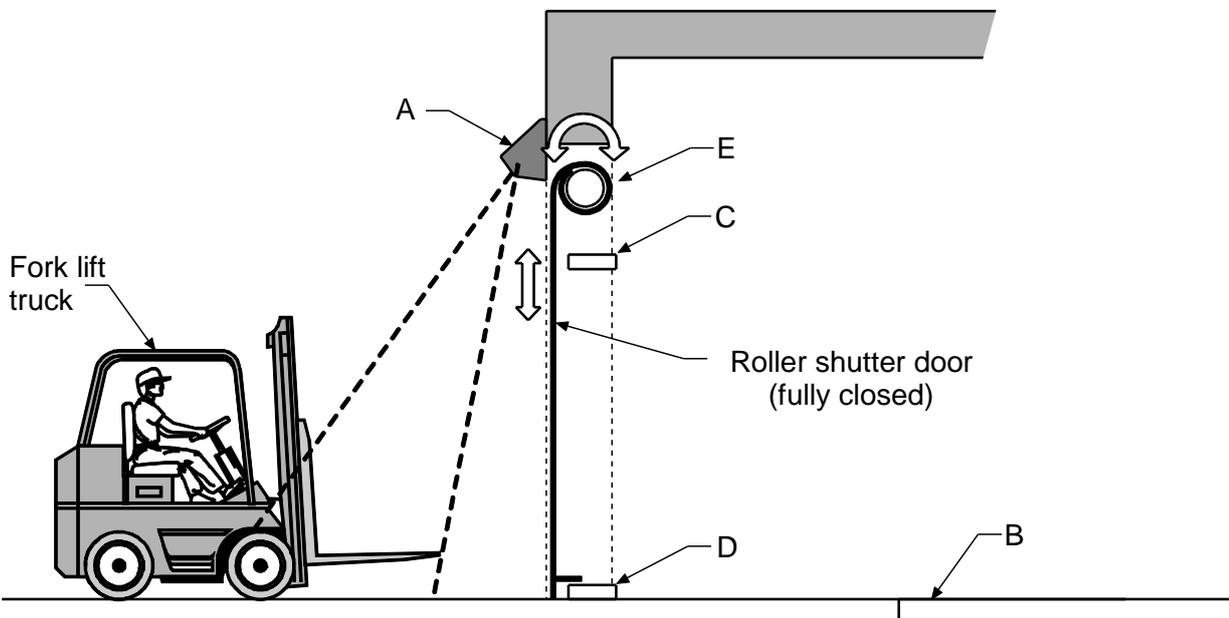

Figure Q11
11. A sports stadium goods entrance uses a roller shutter door as shown in Figure Q11. Exit by this door is **not** allowed. The roller shutter door is controlled by a Programmable Logic Controller (PLC) using sensors and actuators.
The sensors and actuators have been carefully positioned and are identified by the letters A to E in Figure Q11. One of the sensors, B, is a complete truck length inside the door.
- (i) in the **Letter** column, enter the letters A to D shown against each device in Figure Q11.
- (ii) in the **Reason** column, state one reason why each sensor is placed in the position shown in Figure Q11.